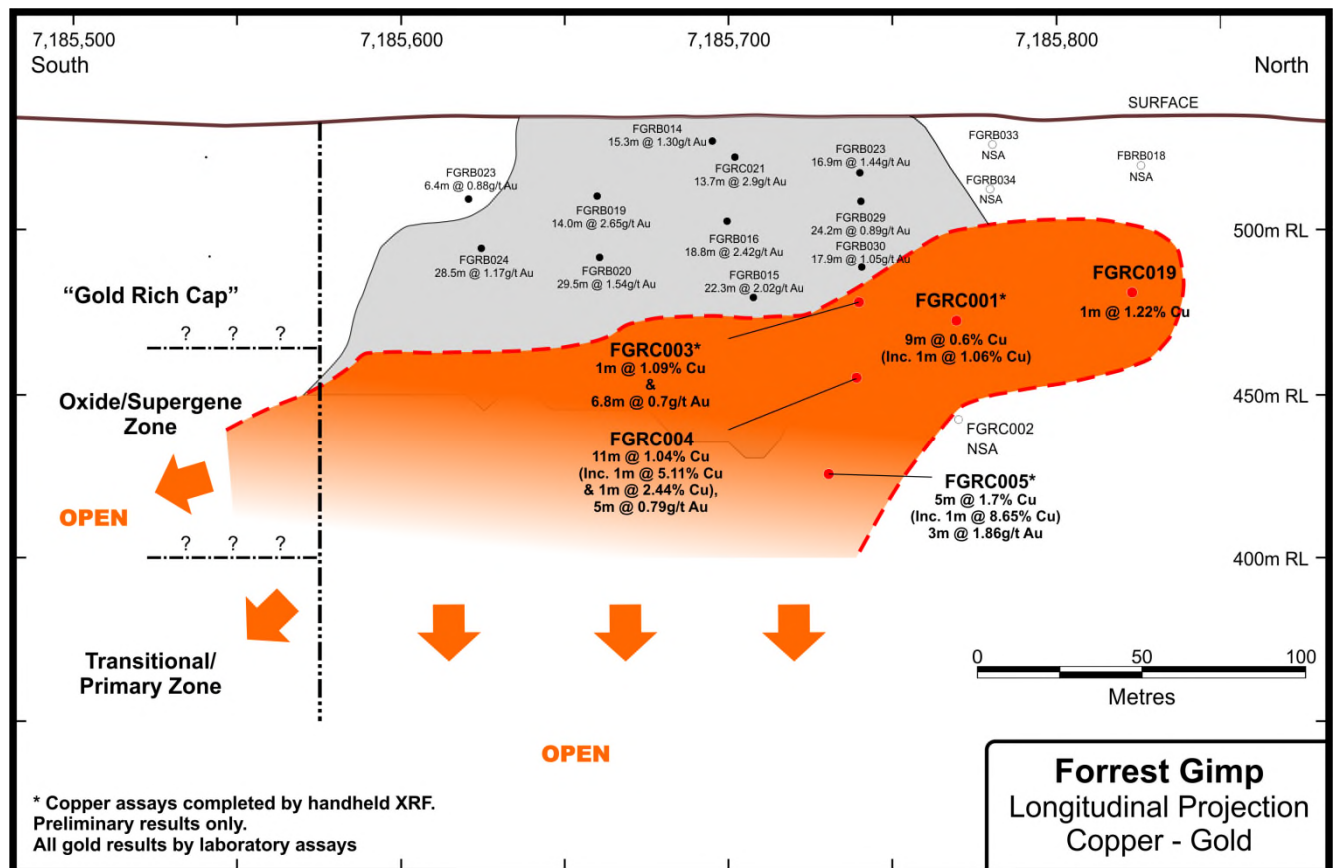

Figure 1: Forrest Gimp Copper-Gold Deposit: Longitudinal Section. Assays reported as true widths
The new results are the product of a systematic re-evaluation of historical drilling which defined the shallow Forrest Gimp gold deposit and the recognition of oxide copper mineralisation in the reverse circulation (RC) drill samples. Key copper results (see Table 1 and Figure 1) include: